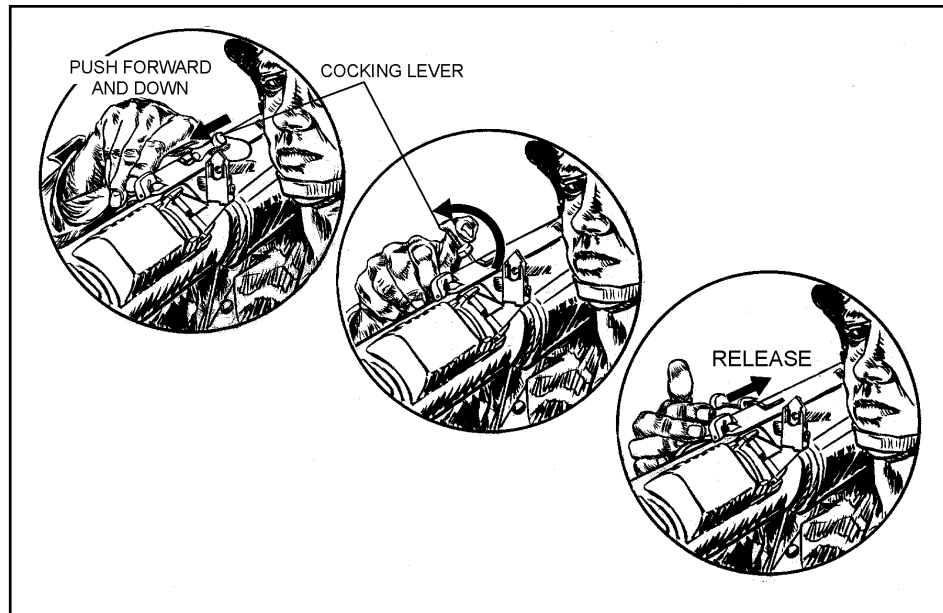

Figure 3-16. Cocking the launcher.
- g. Check the backblast area before you cock the launcher. Then, with your right hand, unfold the cocking lever (Figure 3-16). Place your thumb under it and, with the support of your fingers in front of the firing mechanism, push it forward, rotate it downward and to the right, and let it slide backward.